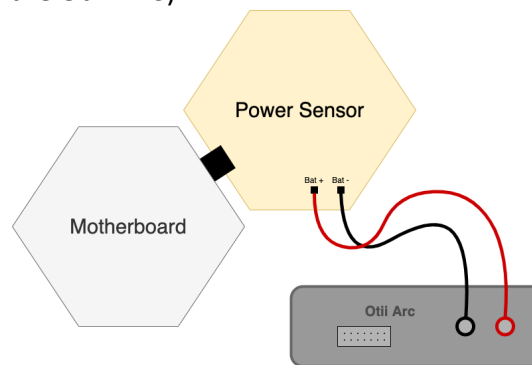

Figure 17 Connect the motherboard, the power sensor and the Otii Arc
1. Plug the motherboard, the power board and the *Otii ARC* according to the scheme fig. 17 (refer to annex A in order to understand how to configure the measuring device *Otii ARC*). With this sensor board, we must remove the solar panel and the battery (the battery is replaced by the *Otii ARC*).